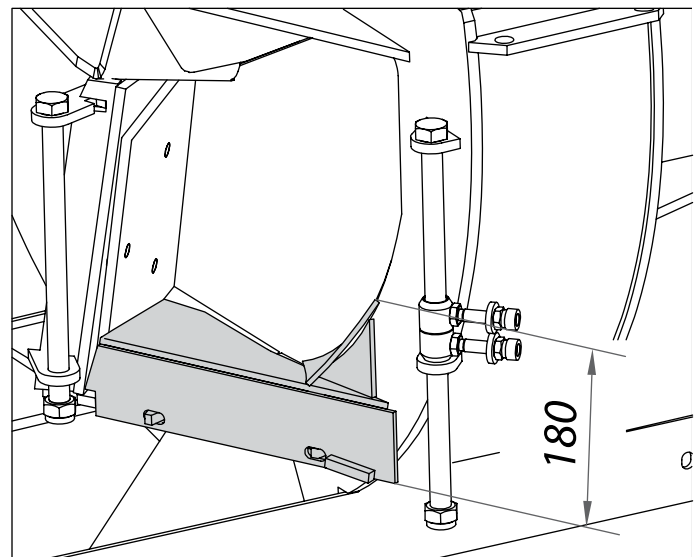

Fig. 4. Installing the adaptor piece
1. For the feed unit, a fitting block is supplied which is to be installed between the chipper and the feed unit. Please make sure to install the appropriate fitting block. The fitting block for the feed units HF260-EL and HFC260 has a height of approx. 180 mm. See fig. 4. The fitting block is installed on the pins in the bottom section of the feed opening. Carefully install the fitting block. Make sure the tip